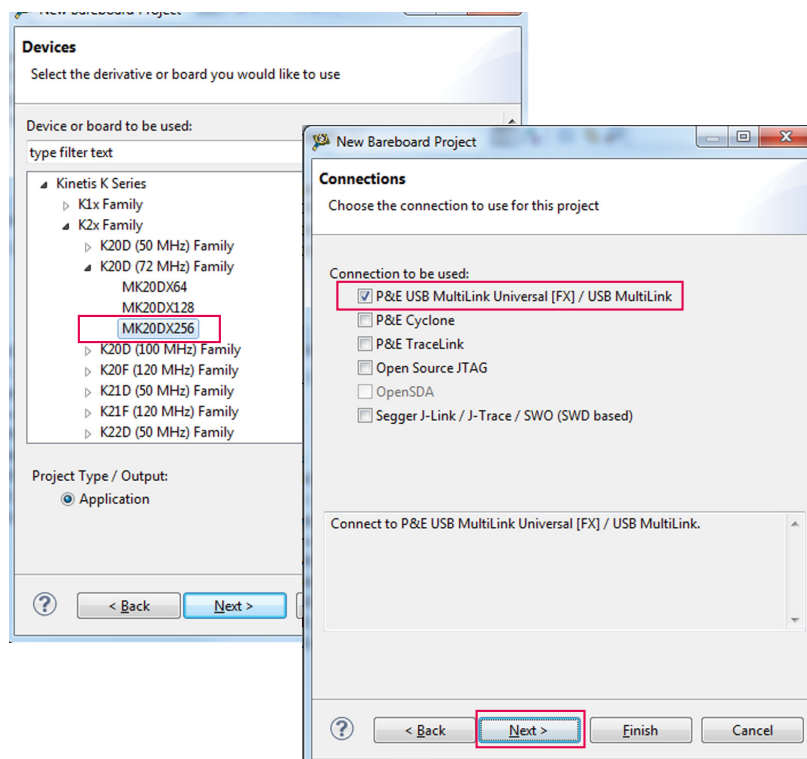

Figure 16. Choosing the Devices and Connections options
2. Choose the MCU class to be used in the MCU Freedom board (MK20DX256 in this example). Select **Processor Expert** and click **Finish** (see Figure 16).